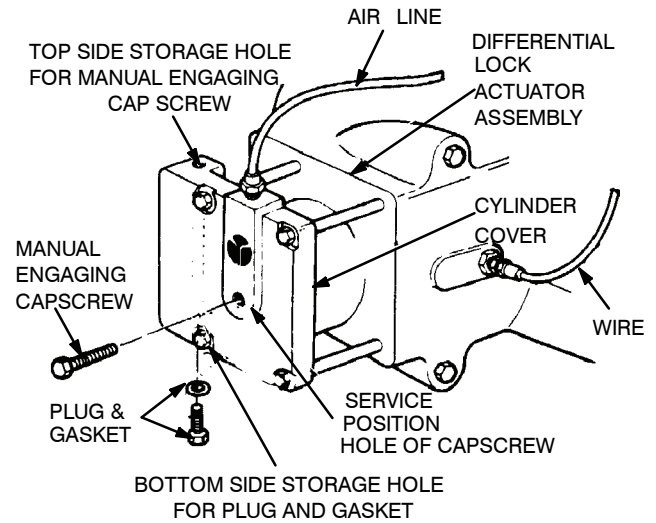

Figure 102.
- (c) Turn the manual engaging capscrews to the right until the head of the capscrew is approximately 1/4 inch from the cylinder cover. DO NOT turn the capscrew beyond its normal stop. The capscrew is now in the service position and the main differential lock is completely engaged. Figure 102.